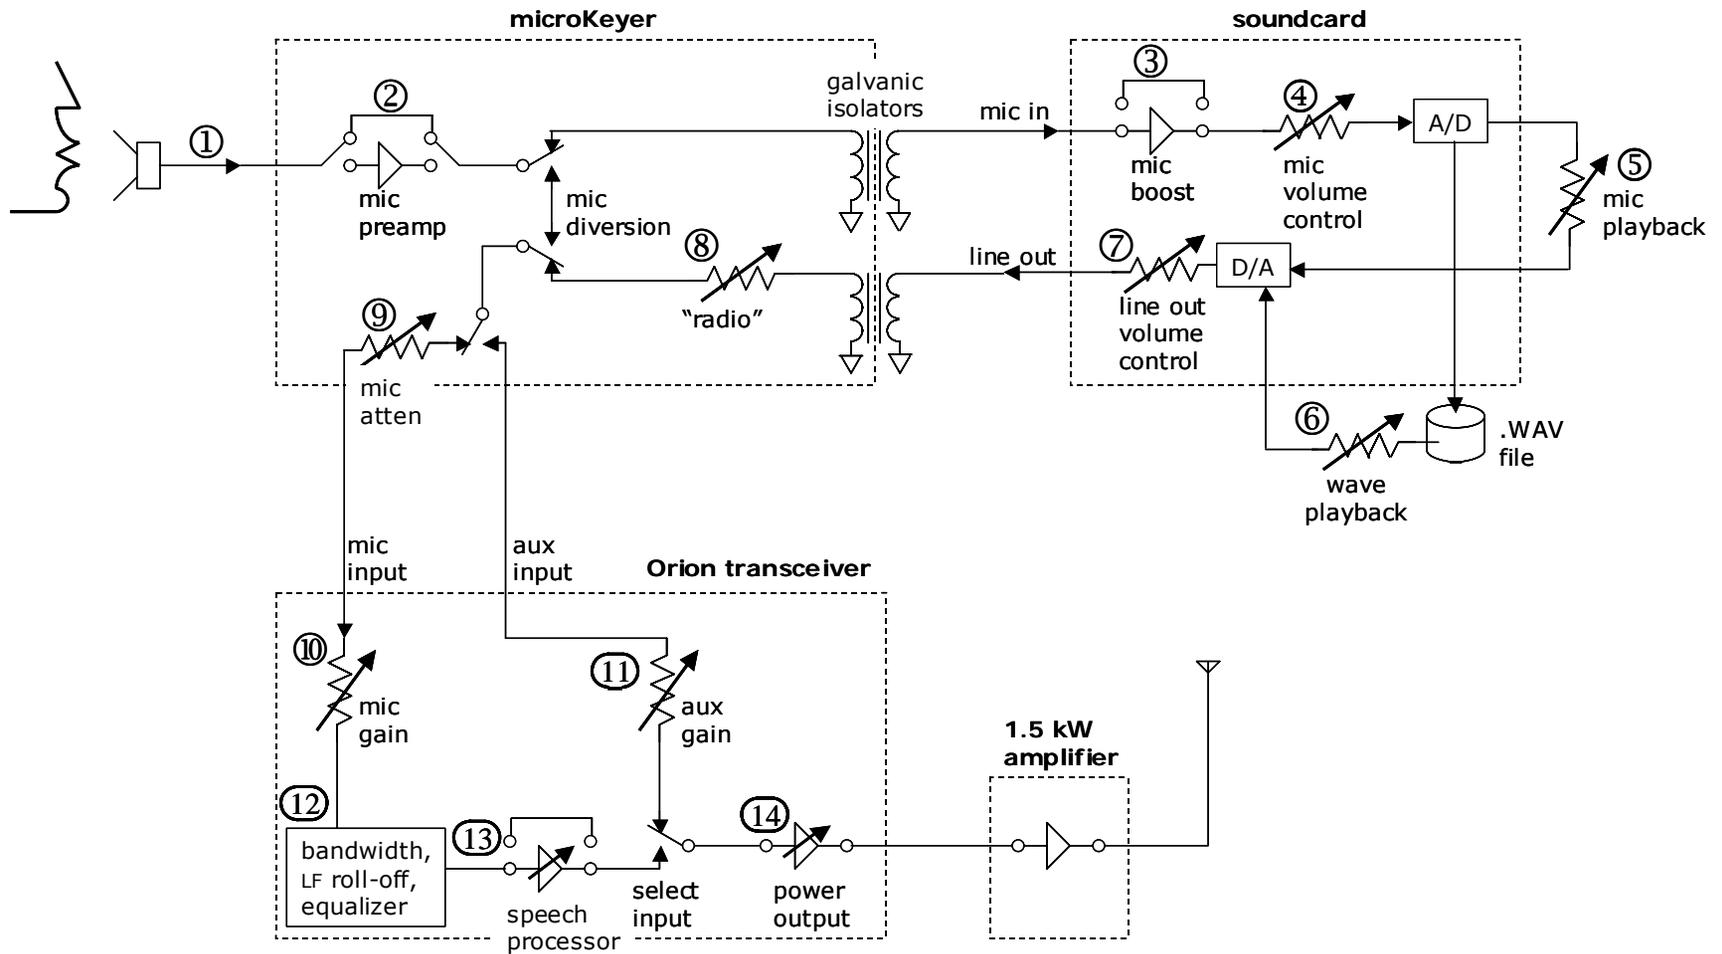

Figure 1: Flow of transmitted audio at w1kM. The numbered points identify key controls affecting transmission quality.
Figure 1 outlines the flow of audio. A short study reveals over a dozen locations along the audio chain where adjustments affect the quality of SSB audio on the air. No wonder stations have poor audio – so many opportunities exist to contaminate the signal! Audio, once contaminated, cannot be restored.
Why stick to these levels? Examine the signal flow inside the microKeyer. Depending on configuration, when stepping on the footswitch the microKeyer may route the microphone signal directly to the radio via the path marked “mic diversion” in Figure 1. This provides a simple override a computer-generated voice message: stomp on the footswitch and get the computer out of
Now let's determine the proper settings for any microphone amplifiers (points 2 and 3 in Figure 1) and gain controls (point 4) so that this portion of the transmit audio chain delivers an appropriate signal level to the soundcard's A/D converter.
At the start of this project, I reasoned that employing the microKeyer's mic preamp (point 2 in Figure 1) would further help to achieve that aim.³ By boosting the mic signal levels close to the mic, any stray noise picked up in subsequent cabling would have little impact on the signal to noise ratio.
However, this 2 V_{p-p} signal completely overwhelmed my soundcard's D/A converter, resulting in very distorted recordings. Even setting the Windows volume control for the mic input (point 4 in Figure 1) at just one pixel above zero resulted in negative-going voice peaks hitting 100% of the converter's encoding range. (Negative-going voice peaks hit the encoder more heavily than positive-going peaks. Because soundcard mic jacks applied some DC voltage between tip and sleeve, it seems plausible the card's circuit did not fully block this DC voltage before delivering the signal to the encoder.)
Having adjusted the controls affecting signal levels between the microphone and its corresponding digital bit stream inside the computer, now adjust the controls affecting the audio generated by the computer and delivered to the transceiver. These controls sit at points 5 through 9 in Figure 1.
Another reason for keeping the soundcard's reproduction of your voice as neutral as possible hinges on the use of the foot-switch-activated mic diversion function shown in Figure 1. During
- The Mic slider (point 5 in Figure 1) governs signal levels when the operator speaks live on-air, and the interconnection box configuration routes the operator's voice into the soundcard and back out again. This slider is not the same as the recording mic volume control, so be sure to adjust the playback sliders, not the recording sliders. In this part of the procedure you will set this control last.
The Windows playback mic slider remained as the final adjustment in this phase. First I configured the microKeyer to route the microphone through the soundcard for live on-air speaking; i.e., not using the mic diversion shown in Figure 1. By speaking the same CQ message in a normal speaking voice, I could adjust the mic playback slider setting for the same 700 mV_{p-p} soundcard line output audio signal level on the scope as for the recorded messages. The initial mid-scale setting turned out to be perfect.